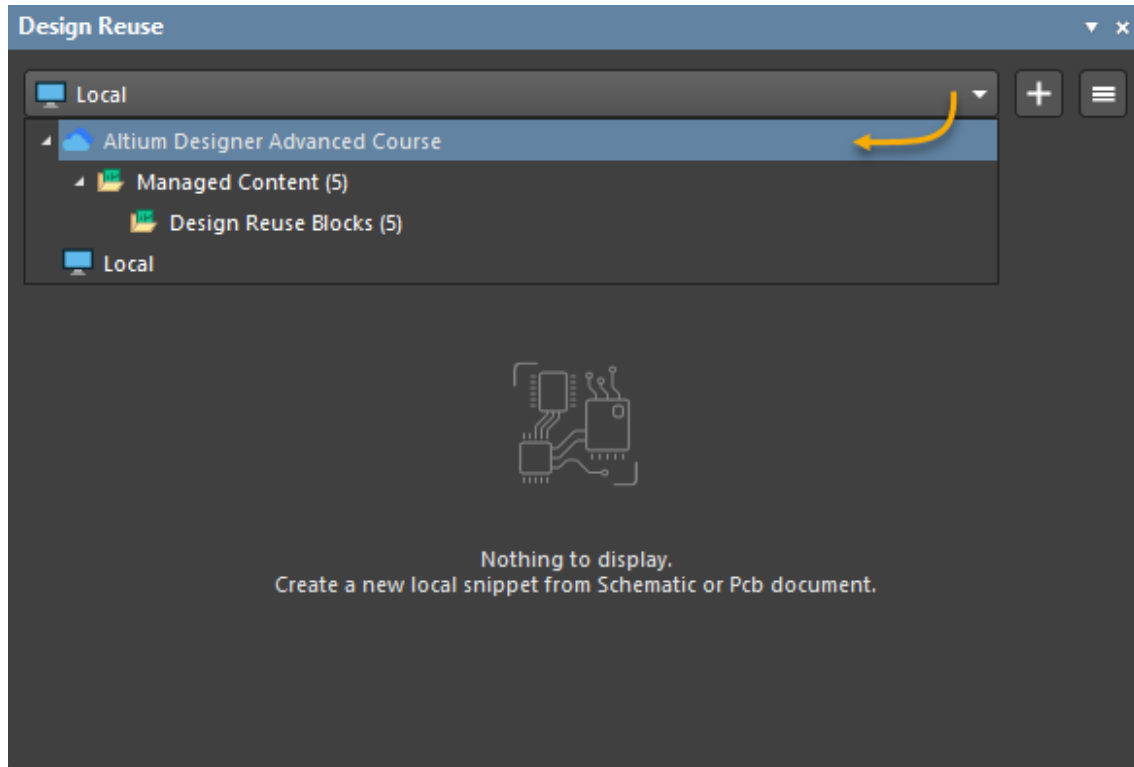

Figure 2. Change from Local Design Reuse to Workspace Design Reuse
13. If the option **Local** is active, change the information to the training workspace. Use Figure 2 as reference. In this panel, you can find the existing Design Reuse Blocks that are ready for use, but you can also create new Design Reuse Blocks.